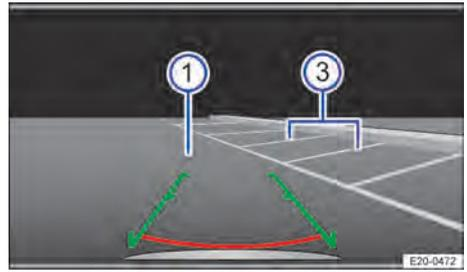

Fig. 121 Infotainment system screen display: Drive towards the selected parking space.
3. Reverse slowly and steer the vehicle so that the lateral lines lead into the selected parking space ②. The lines must correspond to the lateral boundary lines of the parking space → Fig. 121 ③.